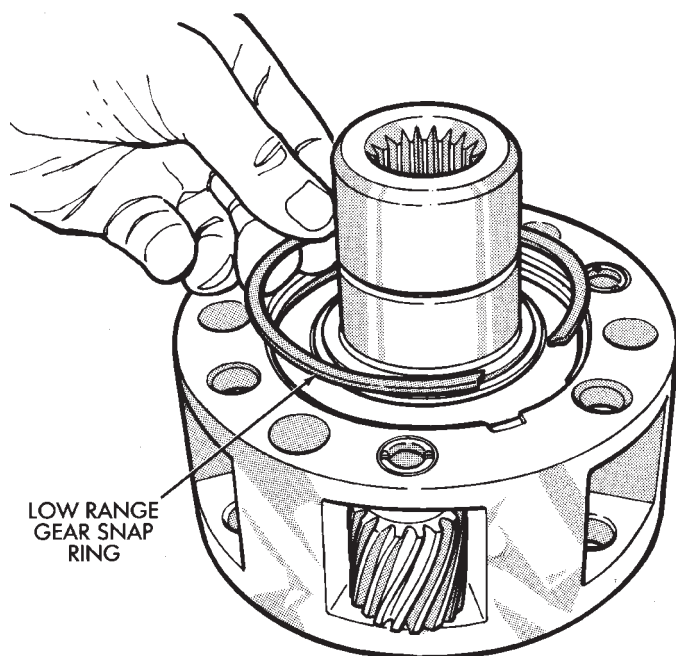

Fig. 31 Removing/Installing Low Range Gear Snap Ring
- (45) Remove low range gear snap ring (Fig. 31).